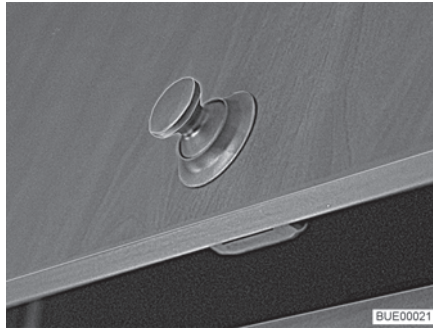
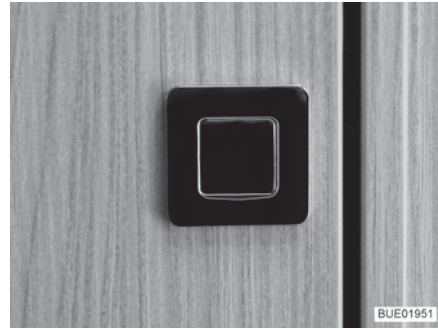

Fig. 45 Furniture flap with round push button
Fig. 46 Furniture flap with rectangular push button
- Press inner part of the lock. The push button (Fig. 45 or Fig. 46) jumps out.